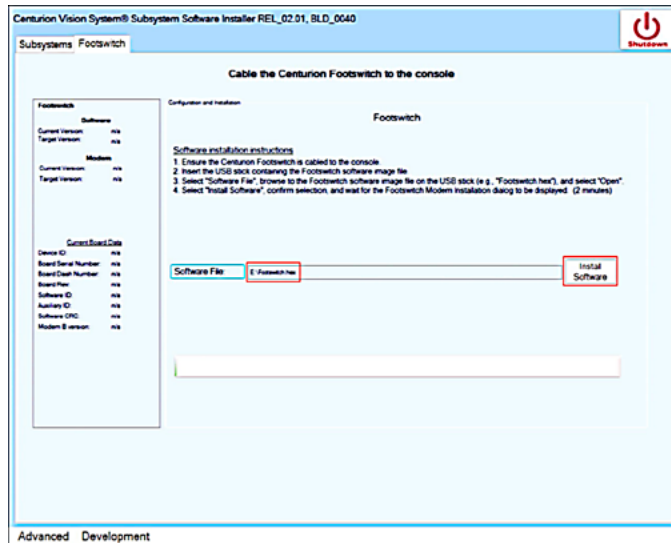

Figure 4-9 Footswitch.hex File Displayed in Software Installer
- 2.2.21 - If using 2.03 Console Service Media USB: Ensure Footswitch.hex is displayed in Software File then click on Install Software (see Figure 4-9).